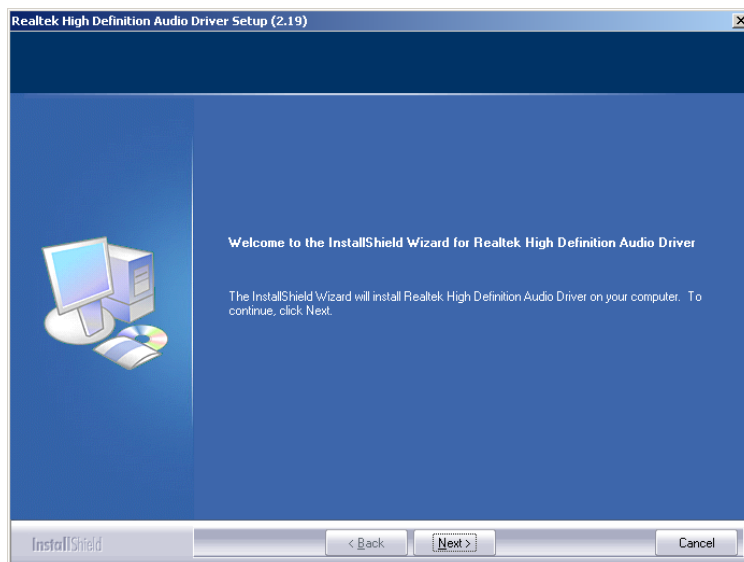

Figure 7-48: InstallShield Wizard Welcome Screen
Step 9: Once initialized, the **InstallShield Wizard** welcome screen appears (Figure 7-48).